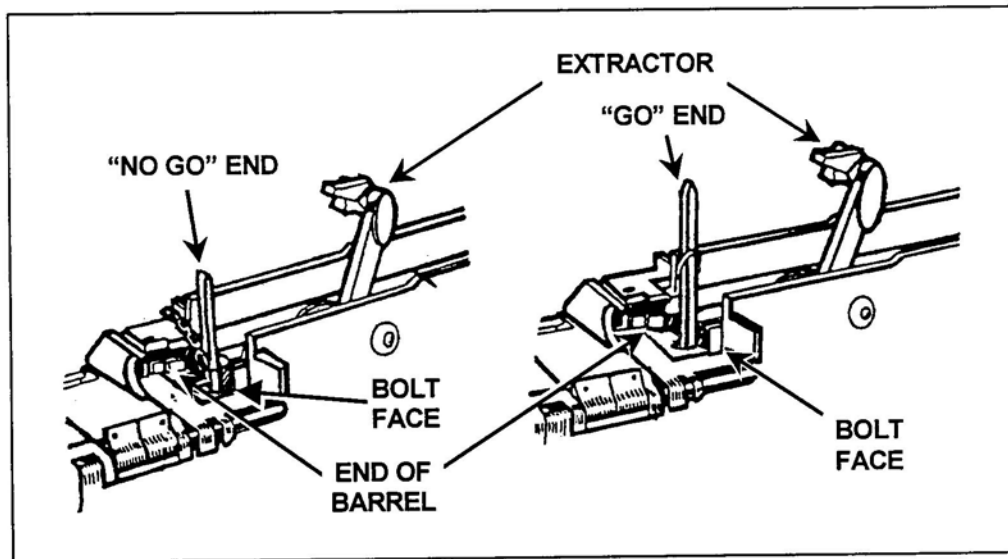

Figure 5. Headspace Setting
- g. Raise the cartridge extractor. Try to insert each end of the GO/NO-GO headspace gauge in the T-slot between the face of the bolt and the rear of the barrel (Figure 5).